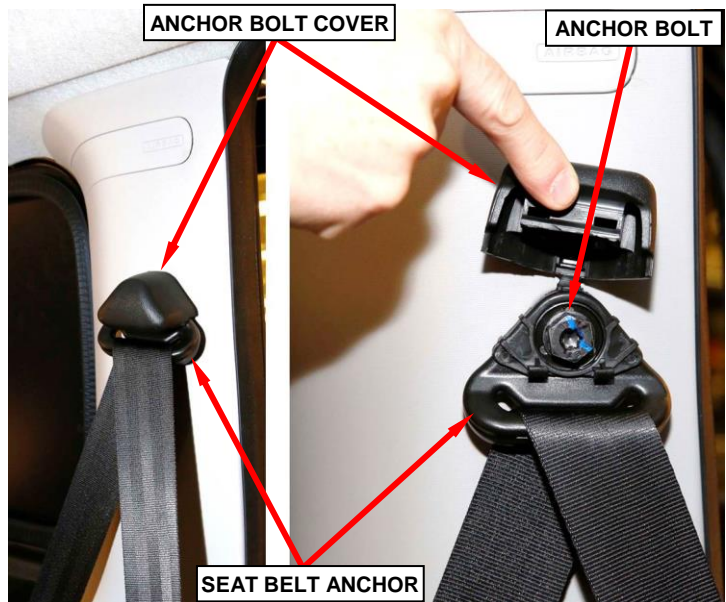

Figure 8 – C-Pillar Seat Belt Upper Anchor
3. Lift up the left C-pillar seat belt upper anchor bolt cover (Figure 8).
4. Remove the left C-pillar seat belt upper anchor bolt (Figure 8).
45. Ensure the seatbelt webbing is properly aligned and then install the left C-pillar upper seat belt anchor bolt (Figure 8). Tighten the bolt to 30 ft. lbs. (40 N·m).
46. Close and secure the left C-pillar upper seat belt anchor bolt cover (Figure 8).